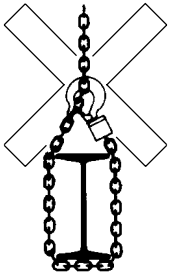

Fig. 5
- The load chain must not be used for lashing purposes (sling chain) (Fig. 5).